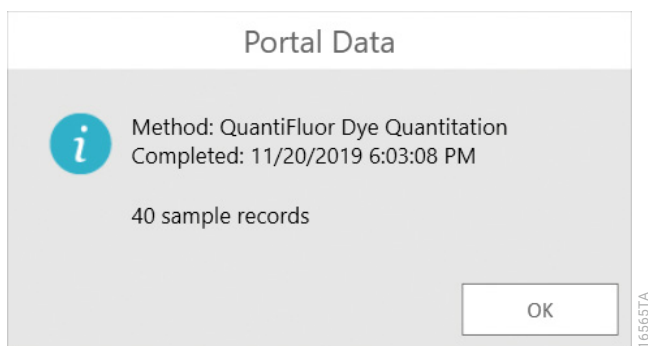

Figure 49. ‘Portal Data’ summary screen. The ‘Portal Data’ screen presents a summary of the data that was retrieved from the Portal software.
6. If the search is successful, a 'Portal Data' summary screen is shown indicating the method that was used to create the plate map, the date on which the method was completed and the number of samples on the plate (Figure 49). Tap the **OK** button to dismiss the 'Portal Data' screen